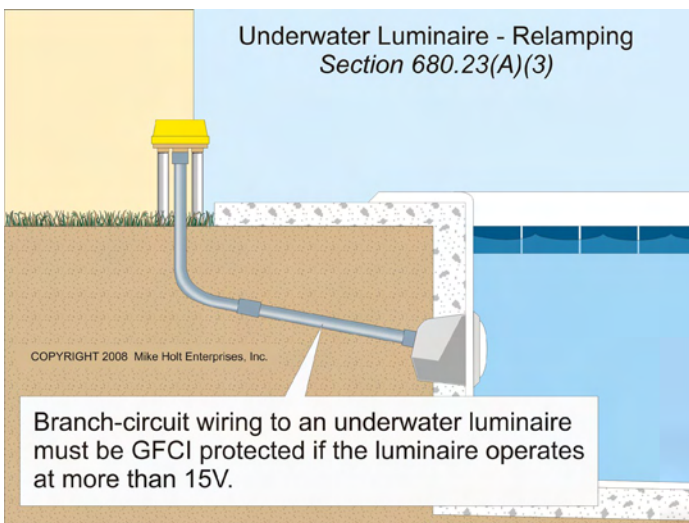

Figure 680-20
(3) GFCI Protection of Underwater Luminaires. Branch circuits that supply underwater luminaires operating at more than 15V must be GFCI protected. **Figure 680-20**